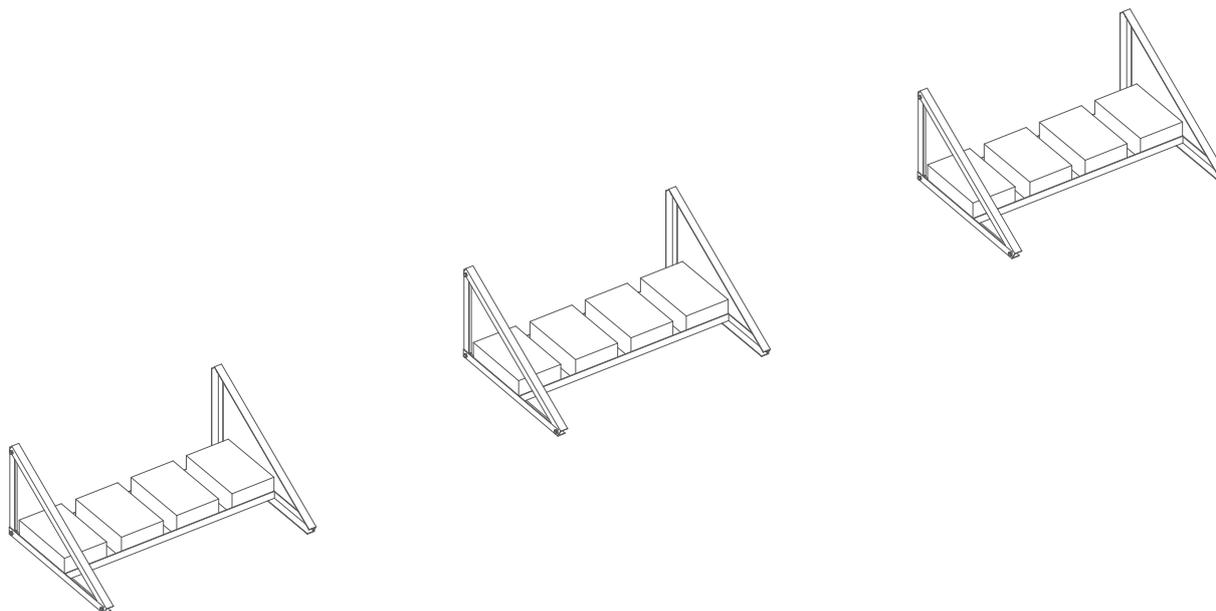

Fig. 4. arrangement of the concrete blocks
- 3** Under the lower base of the assembly triangle you need to put a rubber SBR mat. The entire building should be loaded with concrete blocks of 38 x 24 x 12 cm and a individual weight of 25 kg. The blocks should be placed on the weight bars between the triangles. On a pair of weight bars should be placed 4 concrete blocks should be placed (Fig. 4).